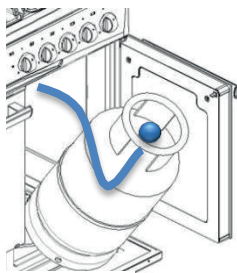
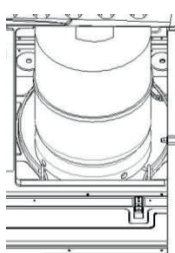

Figure 16A
Figure 17
- As shown in the Figure 16A, first place the lower part of the cylinder and then place the top part of the cylinder (figure 17).